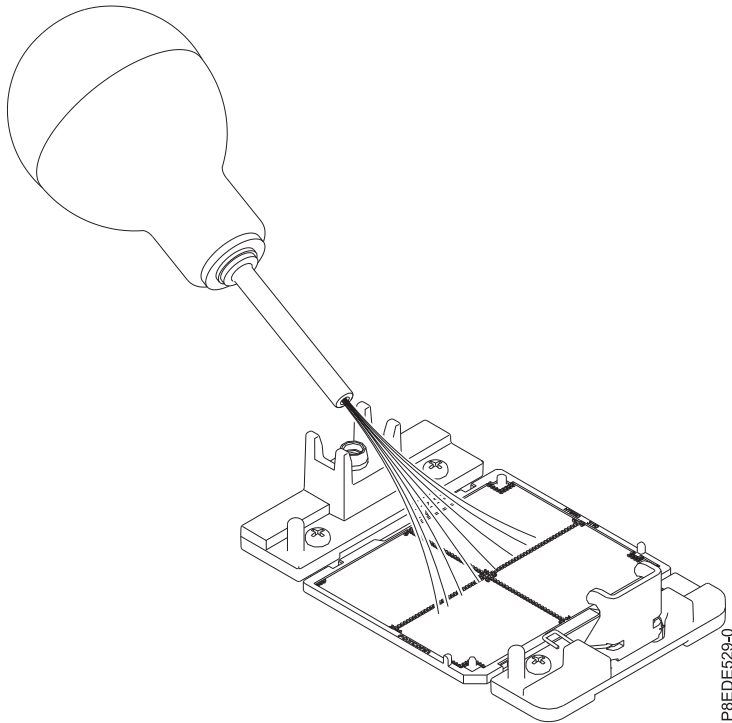

Figure 32. Removing dust and debris from the system processor socket
- a. If dust or debris is present on the system processor socket, use the supplied air pump (part number 45D2645) to clean the socket. If your air pump is not assembled as shown in Figure 32 on page 30, fasten the tip onto the bulb. Blow small bursts of air from the center toward the sides of the socket, as shown Figure 32 on page 30.